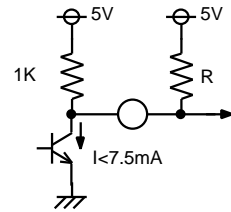

Fig.4
4. The terminal of H, V output pin are shown as Fig.4. It is possible to reduce rise time by insert the resistor between Vcc line and H, V output Pin, but set the value of resistor in order that the current is under 7.5 mA. Setting the value of R is more than 2k as shown in Fig.4 .